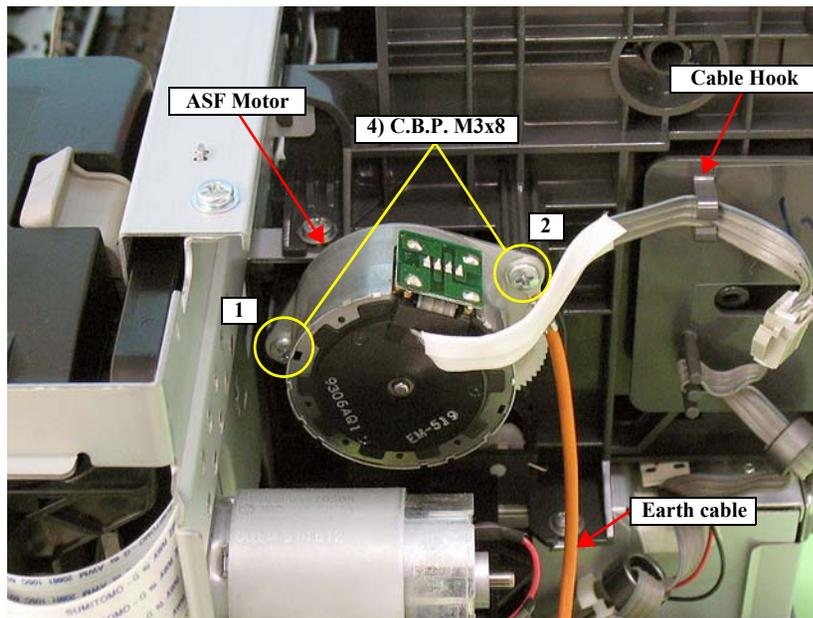

Figure 3-147. Removing the ASF Motor
- Tighten the screws in the order shown in Figure 3-147